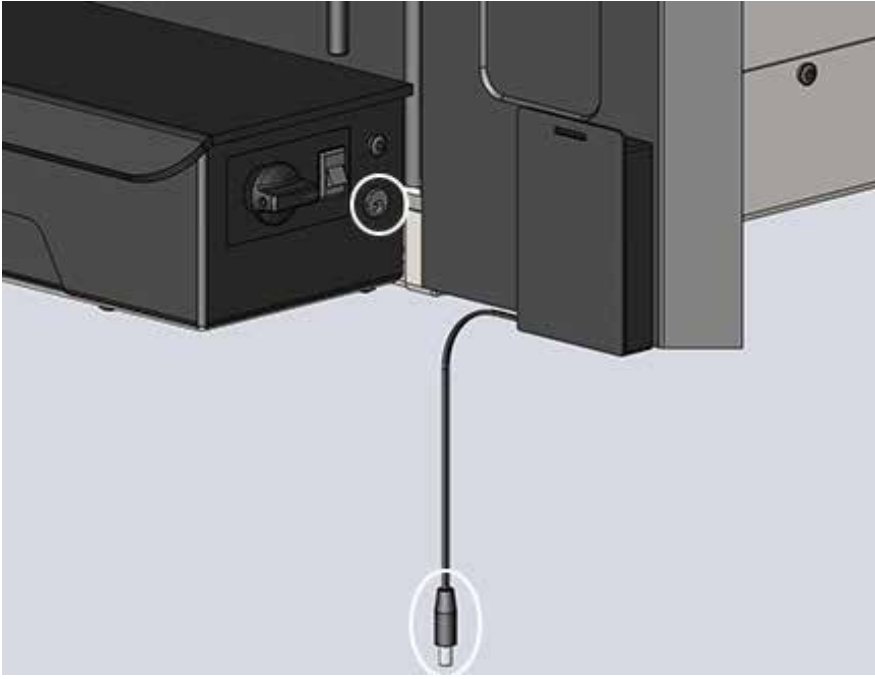

Figure 10: Plug in battery box.
4. Plug the barrel jack from the battery box into the plug in the side of the blower assembly. Figure 10